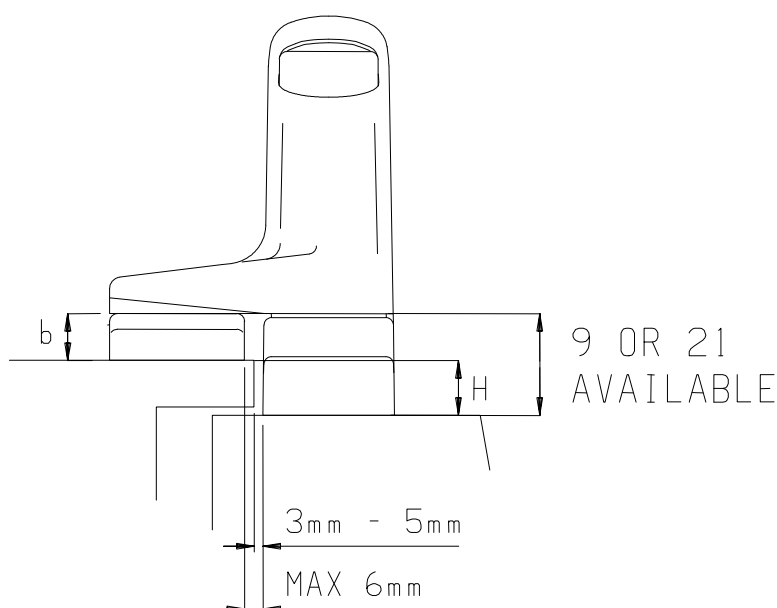

Fig. 3
- 2.1.7.3 Measure the difference between the face of the vent and the face of the window frame (measurement 'H' Fig. 3 above) to find the required base height. Bases available are 9 or 21 mm. Select the base height remembering to allow for the thickness of the strike plate (minimum of 3mm).
- 2.1.8.3 Subtract the measurement 'H' from the base height of the handle to obtain the thickness of the strike plate required ('b' in Fig. 3). These are available in sizes of 3 to 10mm in steps of 1mm.